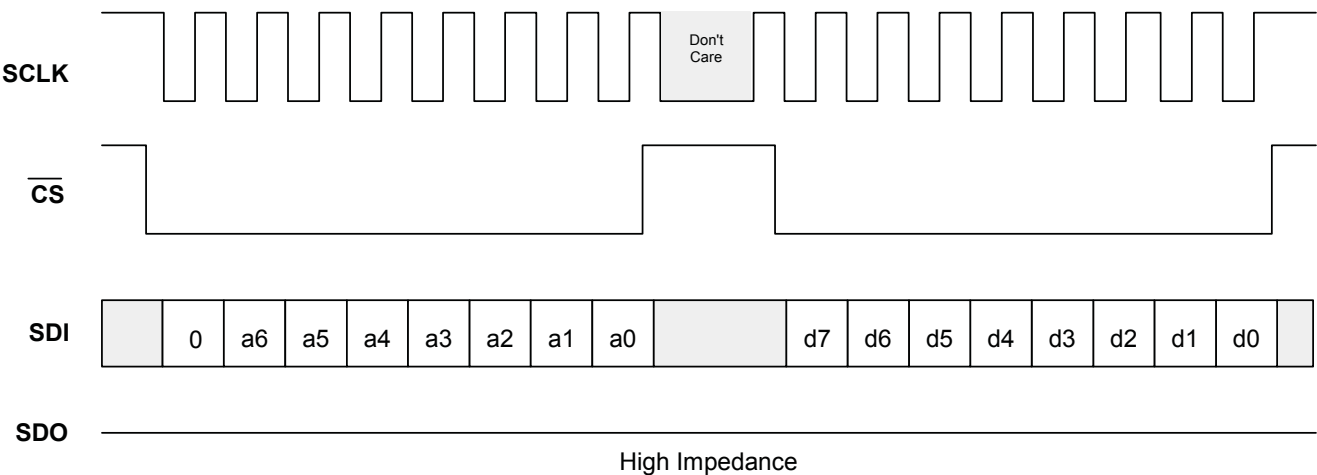

Figure 26. Serial Write 8-Bit Mode
The control interface to the ProSLIC is a 4-wire interface modeled after commonly-available micro-controller and serial peripheral devices. The interface consists of a clock (SCLK), chip select (CS), serial data input (SDI), and serial data output (SDO). Data is transferred a byte at a time with each register access consisting of a pair of byte transfers. Figures 26 and 27 illustrate read and write operation in the SPI bus.
The first byte of the pair is the command/address byte. The MSB of this byte indicates a register read when 1 and a register write when 0. The remaining seven bits of the command/address byte indicate the address of the register to be accessed. The second byte of the pair is the data byte. Because the falling edge of $\overline{CS}$ provides resynchronization of the SPI state machine in the event of a framing error, it is recommended (but not required) that $\overline{CS}$ be taken high between byte transfers as shown in Figures 26 and 27.